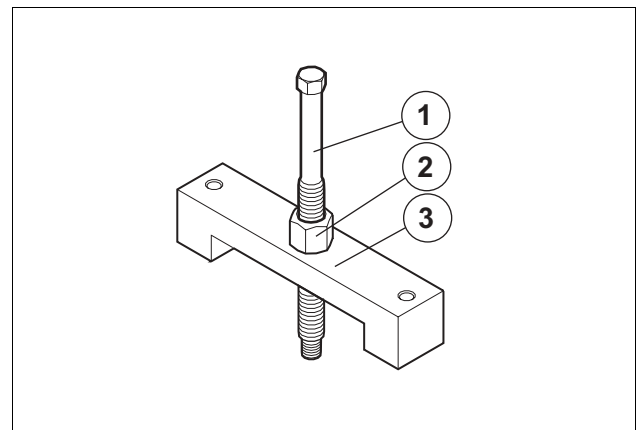

Fig. 34 Puller P/N 0696167
Note! Never hammer or pry on saw motor when assembling or disassembling, always use Puller P/N 0696167 (See Fig. 34.) which is designed especially for this purpose. Bearings in the saw unit and the saw motor can easily be damaged if care is not taken.
2. Assemble the puller according to the following figure. See Fig. 34.